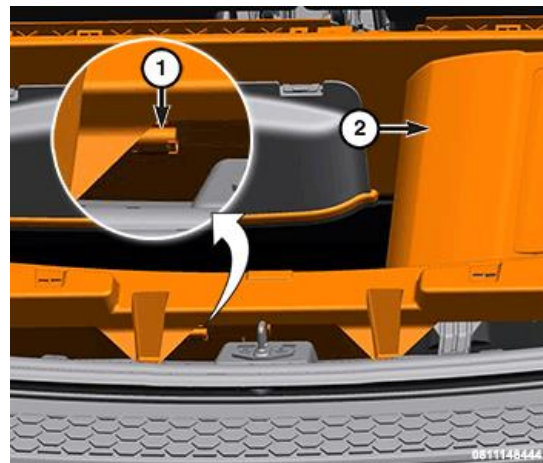

Figure 21 – Proximity Sensor Connector
- 37. Disconnect the wire harness connector (1) from the proximity sensor (Figure 21).
99. Connect the wire harness connector (1) to the proximity sensor (Figure 21).